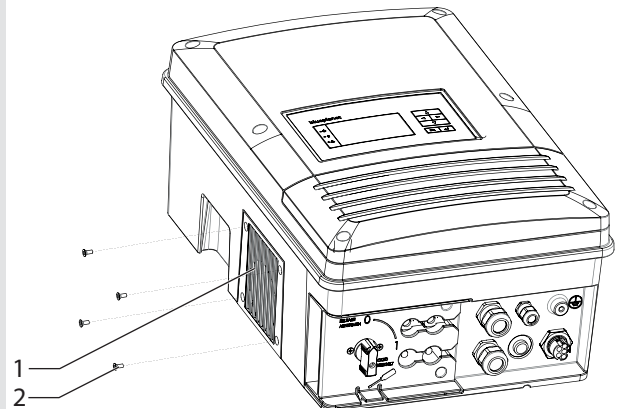

Figure 37: Remove the fan
- 4. Remove fan cover with the screws from the vent cavity (Figure 37).